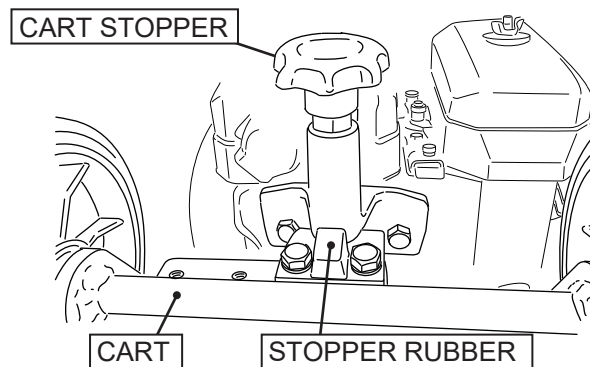

Fig.16
4. When contacting the stopper rubber of cart and cart stopper, the cart is fixed at storing position by self-locking system (fig. 16).